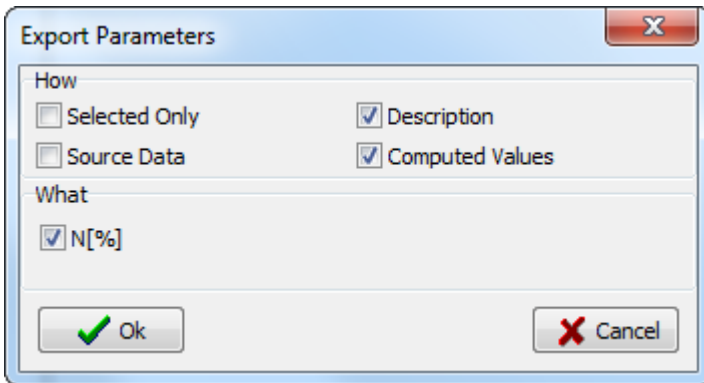

Fig. 22 Data export.
4. To **export** data from the FluorPen software select **File > Export** or **Export** icon. Select data type to export, see Fig. 22.